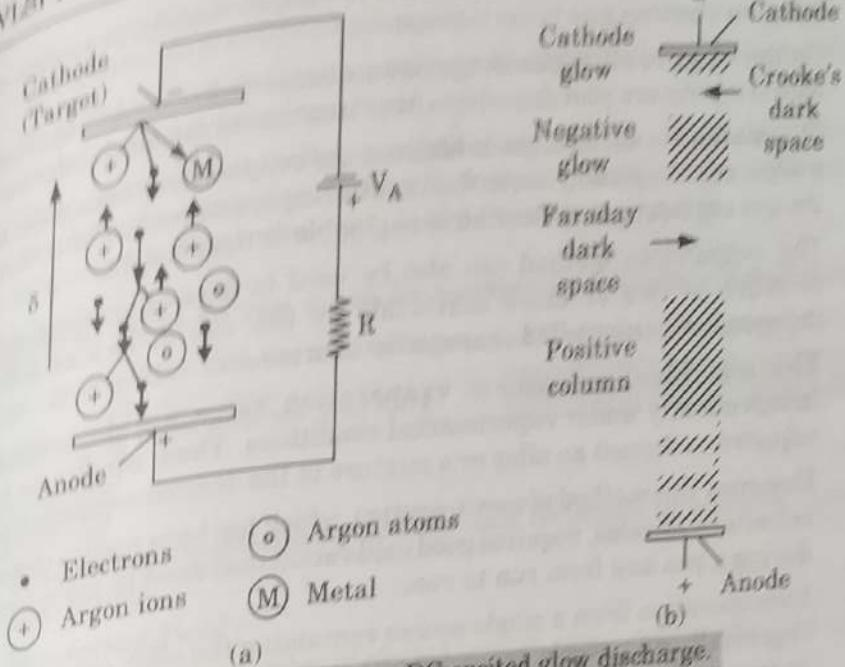

Fig. 5.5.1. Sputtering in a DC excited glow discharge.
7. Fig. 5.5.1(b) shows the nature of the discharge. The most important region here is the Crook's dark space across which nearly all of the applied voltage is dropped.